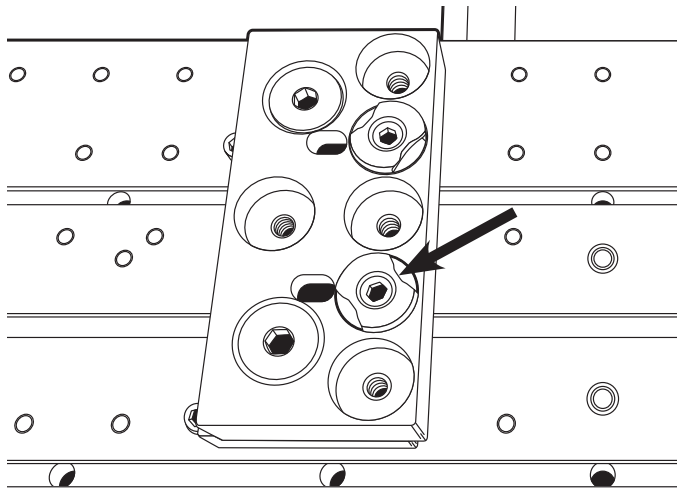

FIGURE 24
- After you have chosen the insert pockets that you are going to use, place the insert into the pocket. Then tighten the insert screw all the way. Then back off the insert screw 90 degrees (1/4 turn). This will allow the insert to turn and properly locate the clamping edge against the part. Figure 24 indicates the clamping area of the insert.